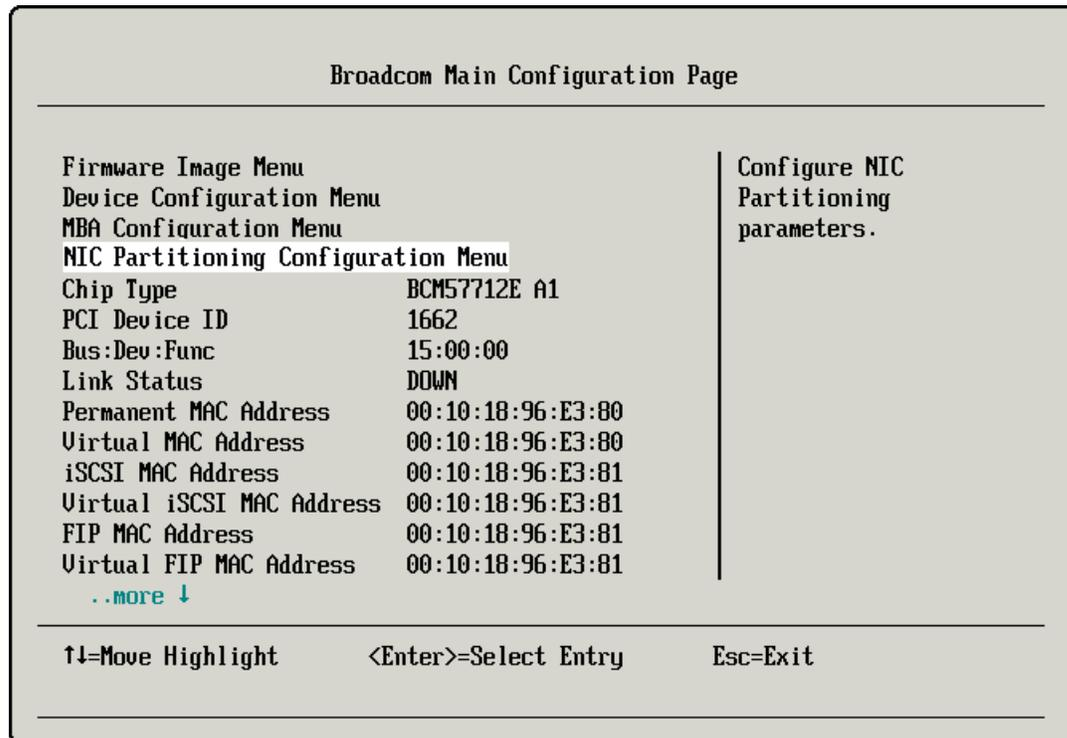

Figure 10-18 New configuration option for NIC partitioning
8. Back in the Broadcom Main Configuration panel (Figure 10-18), select **NIC Partitioning Configuration Menu** option. This option was added to this panel based on the previous settings.